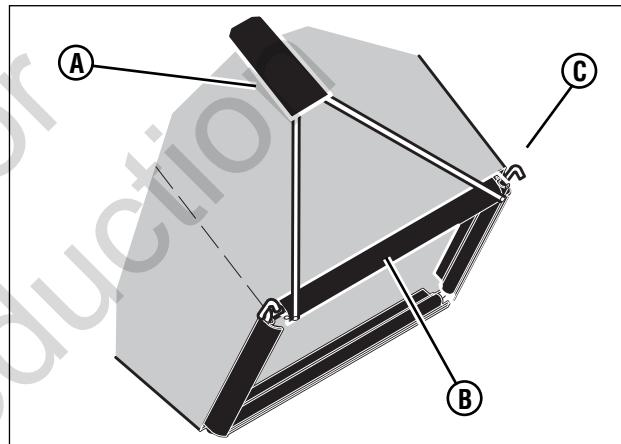

Figure 6: Installing the bag clips
2. Make sure the handle (**A**, **Figure 6**) is on the outside of the grass bag.